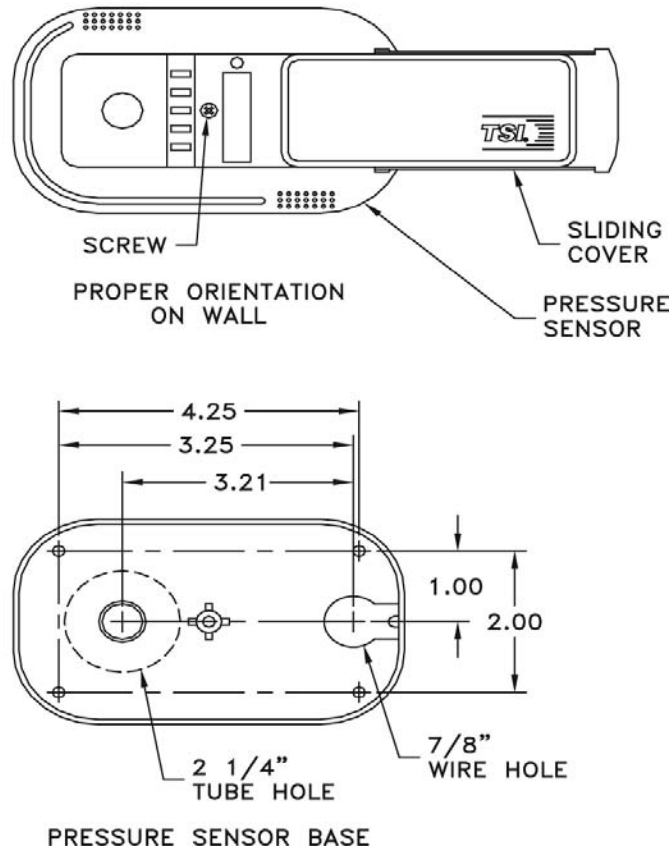

Figure 2: Pressure Sensor Orientation and Mounting Template
**WARNING:** 800326 pressure sensor must be mounted through the wall between the controlled space (laboratory) and referenced space (hallway), exactly as shown in Figure 2 and 3.
2. The pressure sensor must be orientated on the wall as shown in Figure 2. Looking at the mounted sensor, sensor hole is on the left (2 1/4") and wire hole is on the right.
4. Drill a 7/8 inch hole on the side of the wall that the pressure sensor will be mounted. This hole is for the six-conductor sensor cable. Refer to Figure 2 for a hole mounting pattern.
5. Slide sensor cover to right and remove screw that holds the sensor base to the pressure sensor (Figure 2). Remove pressure sensor and store in a safe place.